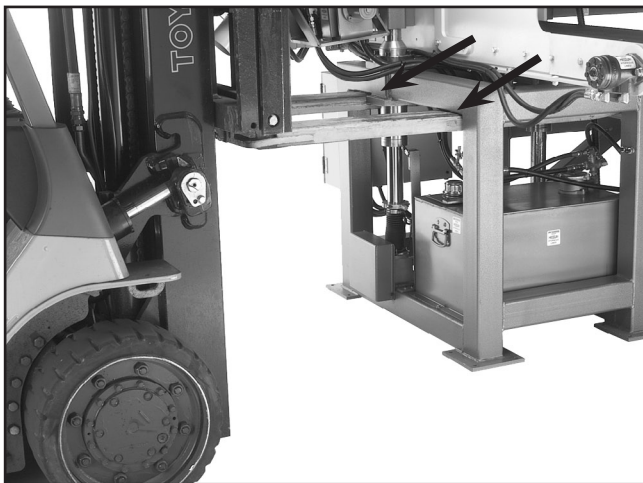

Figure 11. Lifting points for moving the resaw with a forklift.
2. Using a forklift, lift the resaw from the frame location shown in **Figure 11**, and move it to your predetermined location.